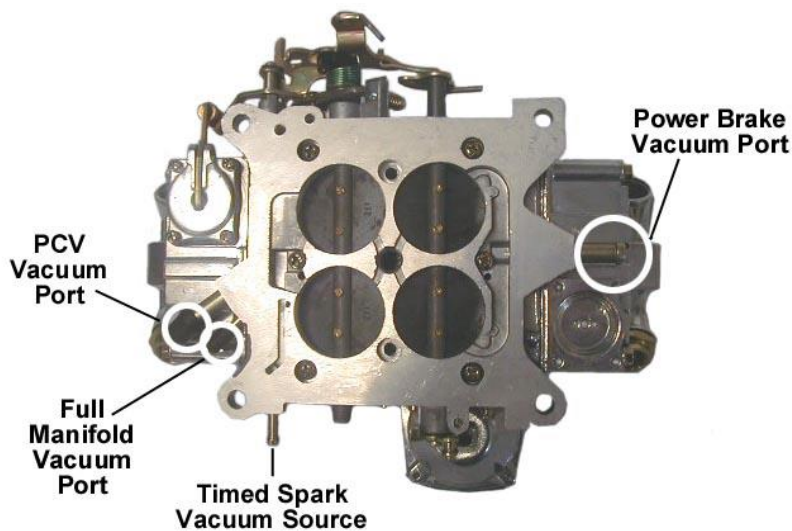

Figure 7
6. Reconnect the appropriate vacuum hoses to the carburetor, noting the correct fitting from **Figure 6** and **Figure 7**.
8. Connect the power brake hose to the fitting as shown in **Figure 7**.
1. Attach the vacuum gauge to a manifold vacuum port on the throttle body (**Figure 7**).